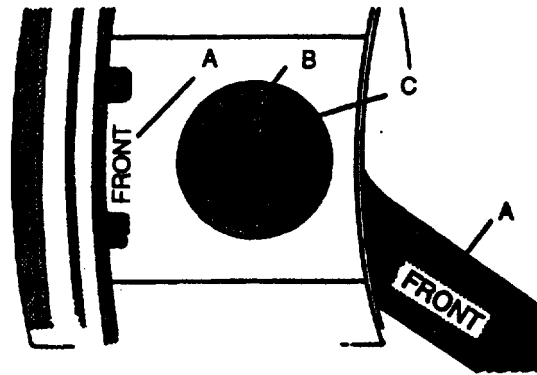

FIGURE 3-144. Assembled Piston, Pin, and Connecting Rod
- (2) Assemble pistons (7) and connecting rods (4), making sure word FRONT (A, FIGURE 3-144) on side or top of piston and side of connecting rod are on same side.